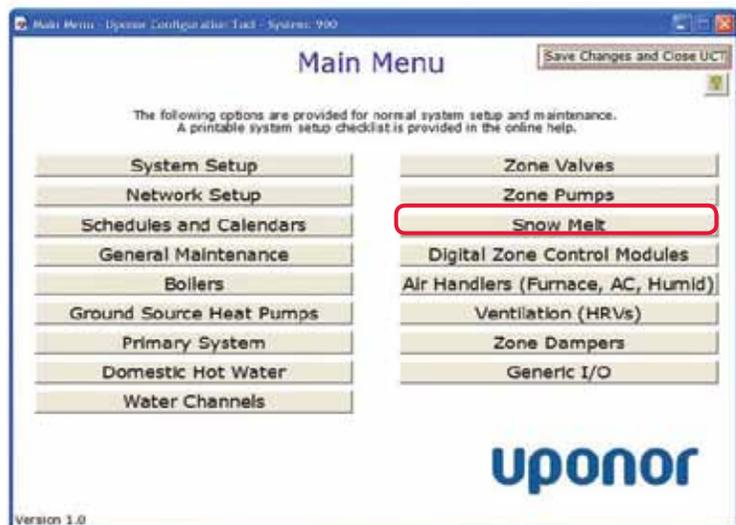
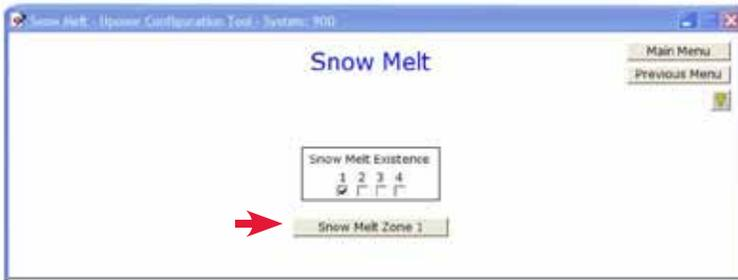

Figure 2.12-1: Main Menu Screen
Figure 2.12-2: Available Snow Melt Zone Screen
1. From the **Main Menu**, click on the **Snow Melt** button shown in **Figure 2.12-1**. This displays the Snow Melt screen shown in **Figure 2.12-2**. The screen will display the snow melt zones that are currently connected to the SWT.
- From the **Main Menu**, click on the **Snow Melt** button to display the Snow Melt screen shown in **Figure 2.12-2**.